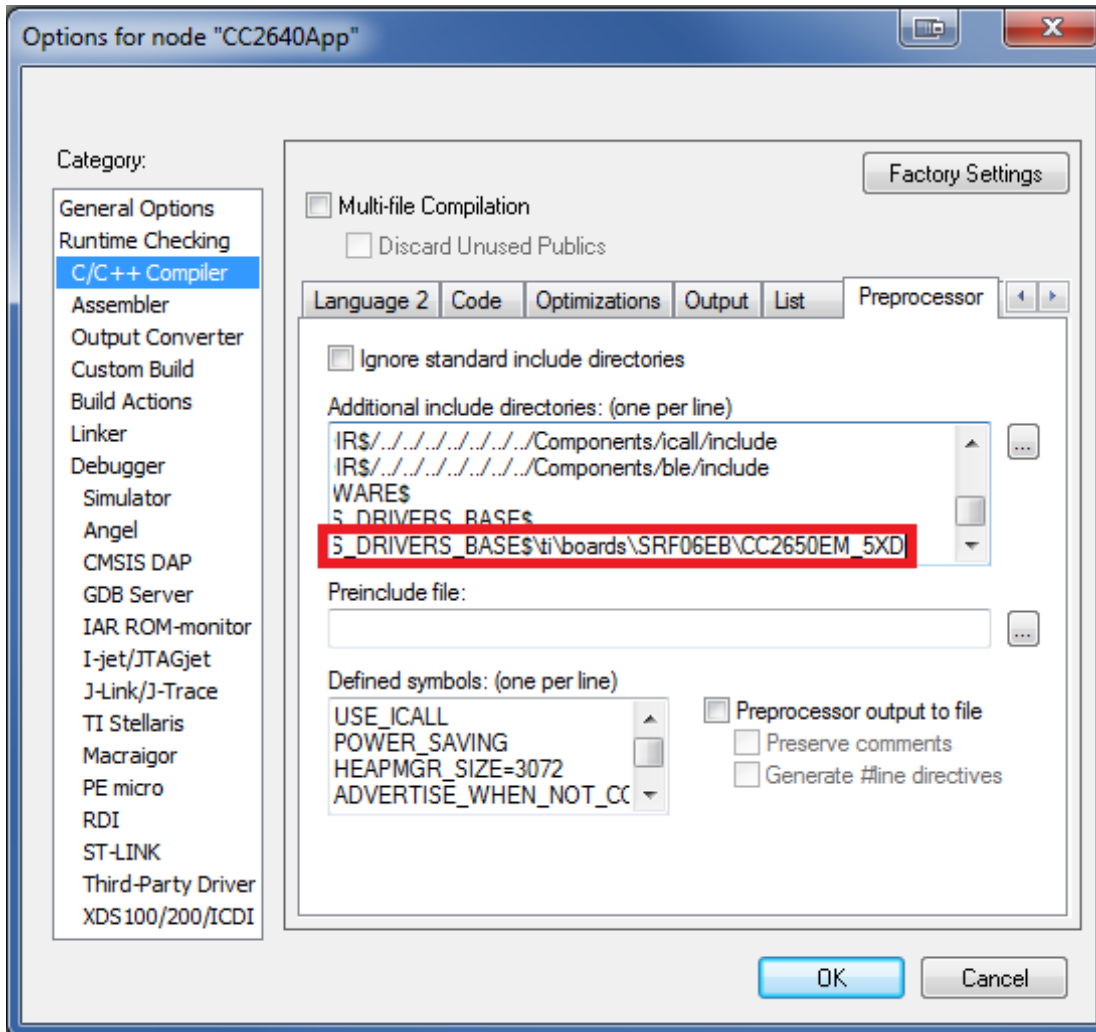

**Figure 4 SaBLE-x Module Waking from Standby Timing Diagram**
**Figure 4** shows the response time to wake up from standby using a wake up pin. The method is the same as described in the shutdown section:
In **Figure 4** it shows the module taking approximately 139 us to wake.